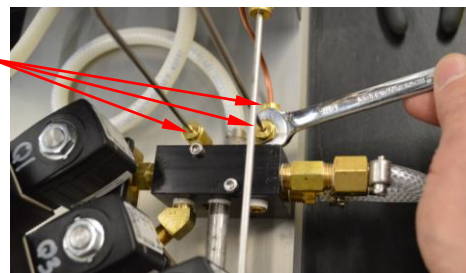

Figure 3
- e. Finger tighten the brass nuts onto the new X64. Then using a 7/16" wrench tighten no more the 1/8" turn. See Figure 3.